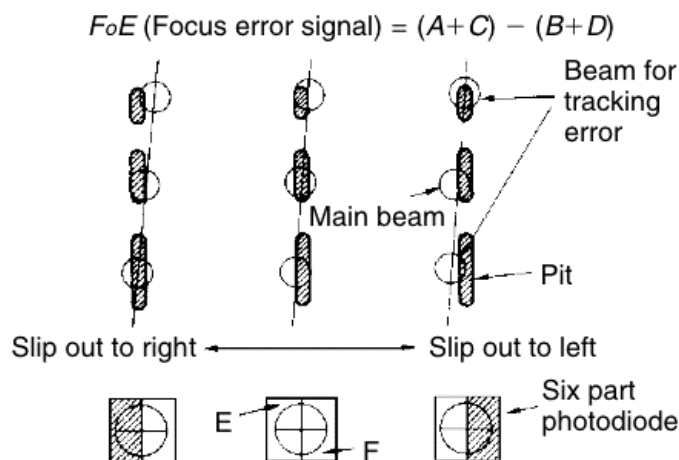

FIGURE 25-16 The tracking-error circuit beam and correct focusing of the photodiodes.
If the beam tends to move away from the pits, as indicated, the degree of reflection in the auxiliary beams changes, depending on the direction of the shift. The reflected auxiliary beams are converted into electric signals by the E and F detectors at both ends of the six-part diode, and the mutual differences are obtained as a tracking-error (TE) signal (Fig. 25-16). The circuit includes three operational amplifiers. The E and F detectors are balanced by variable resistor R114, and the tracking offset is canceled.